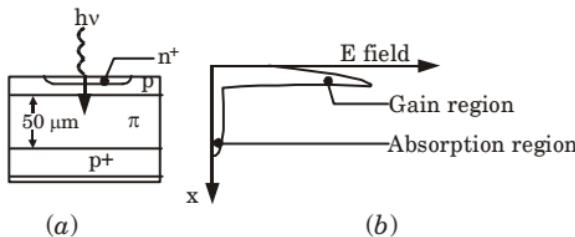

Fig. 4.13.1. (a) Structure of a silicon RAPD. (b) The field distribution in the RAPD showing the gain region across the $p-n^+$ junction.
- The silicon reach through APD consist of $p^+-\pi-p-n^+$ layers as shown in a Fig. 4.13.1.
- In the Fig. 4.13.1(b), the high field region where the avalanche multiplication takes place is relatively narrow and centred on the $p-n^+$ junction.